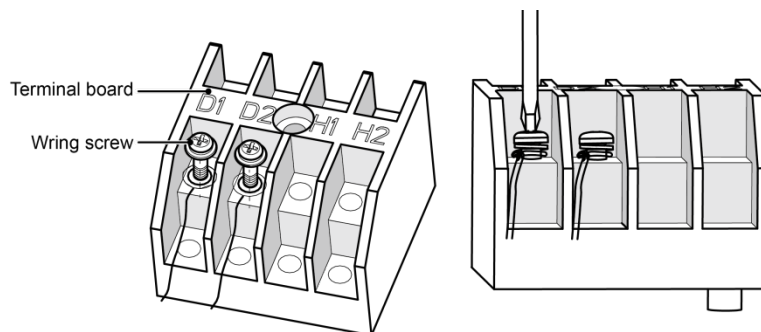

Fig.5.3.1
- (1) Detach the electric box cover.
- (2) Let the Communication cable pass through the wiring through-holes.
- (3) Connect the communication wire to terminal D1 and D2 of indoor 4-bit wiring board, as shown in Fig.5.3.1.